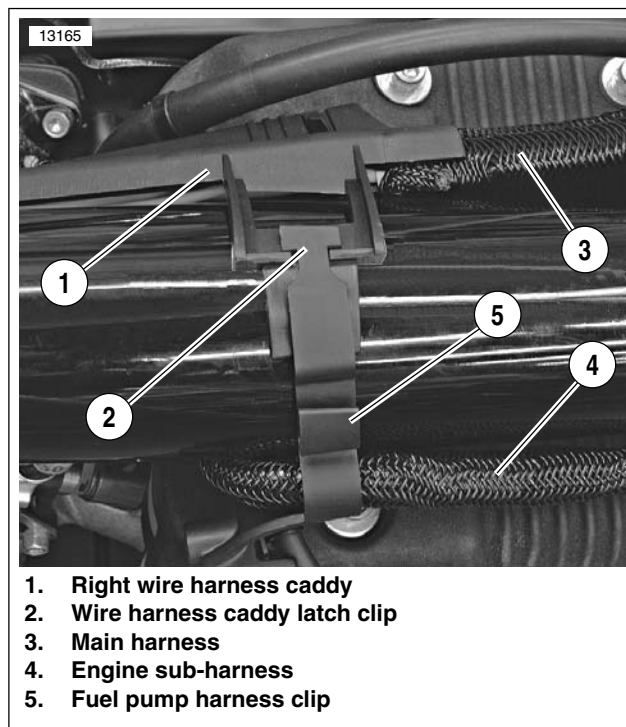

Figure 7-113. Right Wire Harness Caddy Latch Clip
34. Install fuel tank. See Figure 7-113. Make sure fuel pump harness rests in harness clip (5) on wire harness caddy latch clip (2). See INSTALLING FUEL TANK under 4.5 FUEL TANK.